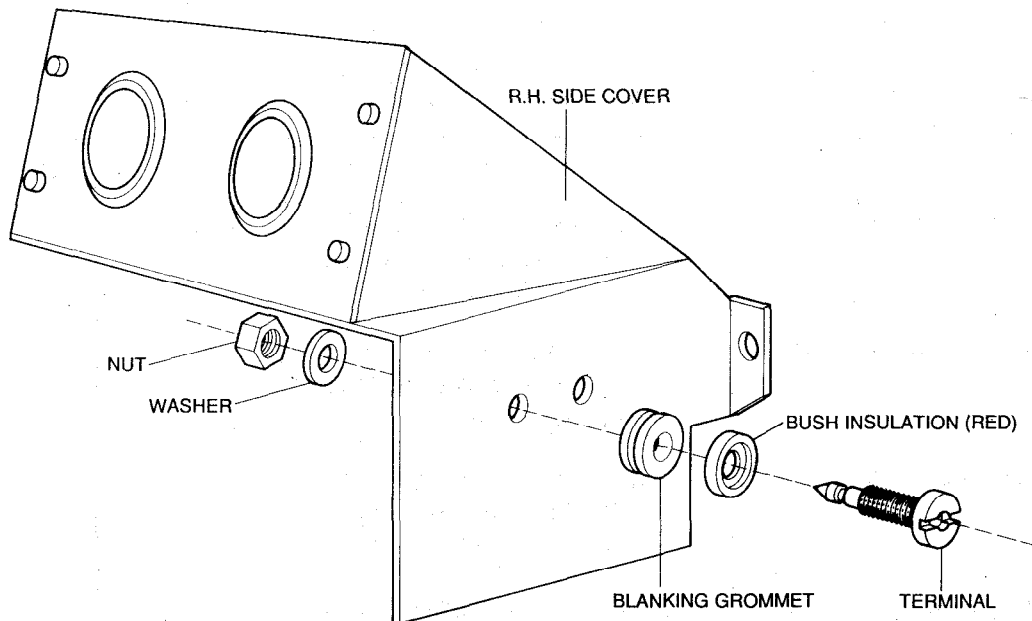

FIG 1 - TERMINAL ASSEMBLY
- (1) Undo the positive terminal securing nut and remove the terminal;
- (2) Fit the grommet (item 1 from Table 2) to the terminal access hole and push the terminal through the centre of the blanking grommet; and
- (3) Reassemble the terminal as shown in Fig 1.